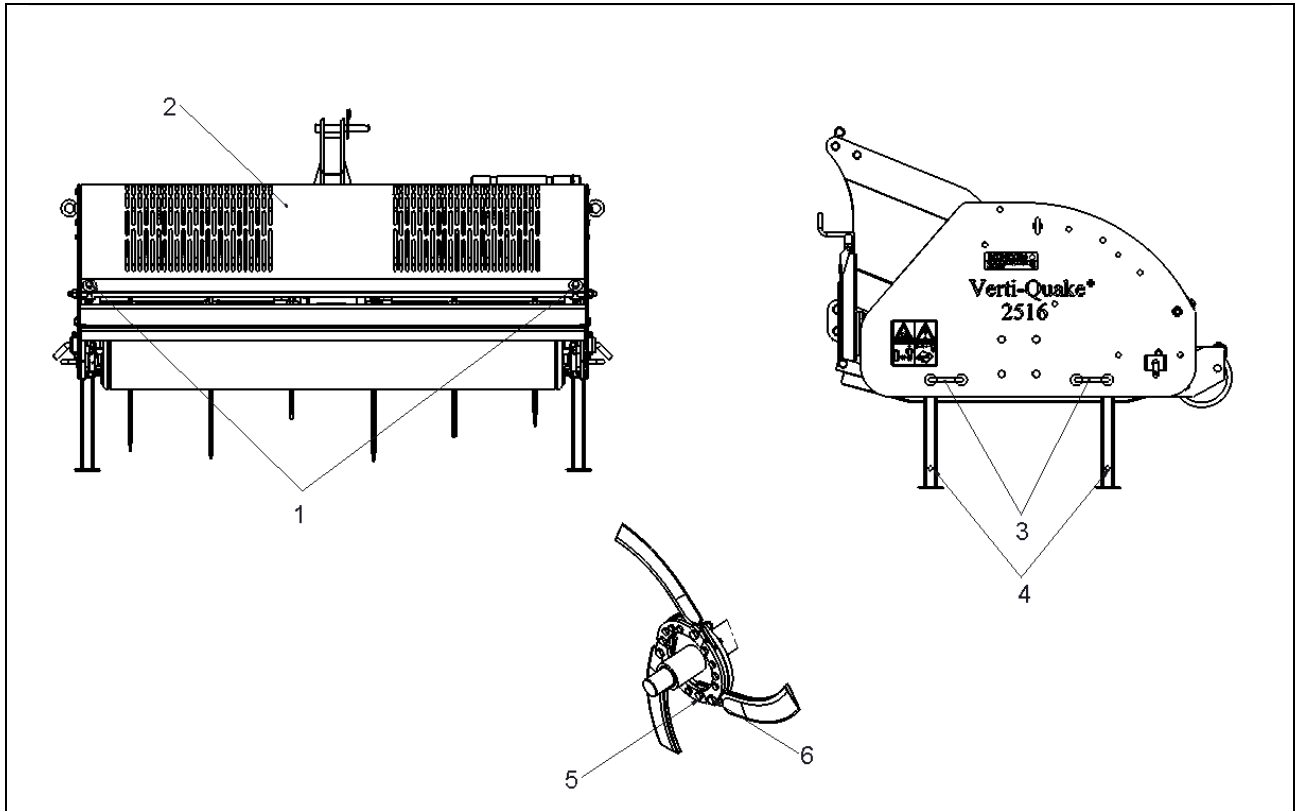

Fig. 8
1. Loosen the bolts 1. Open the access hatch 2. (fig. 8)
12. Close the access hatch 2 and secure these by tightening bolts 1. (fig. 8)